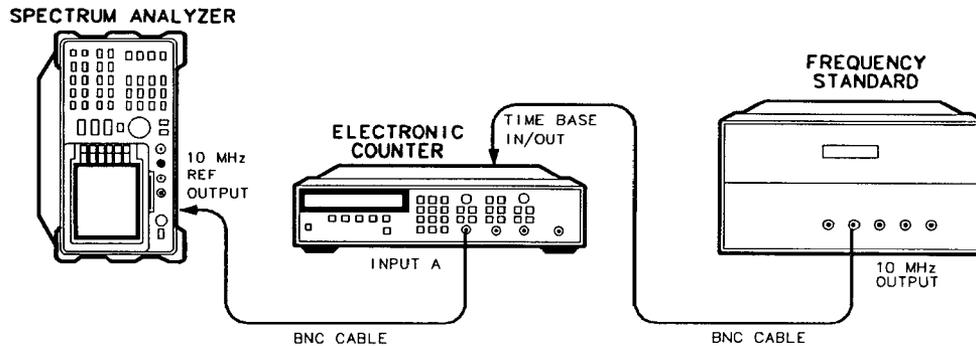

Figure 2-8. Precision Frequency Reference Setup
1. Place the analyzer on its side as shown in Figure 2-8 and set the **LINE** switch of the spectrum analyzer to ON.
3. Connect the frequency standard to the frequency counter rear-panel TIMEBASE IN/OUT connector. Refer to Figure 2-8.